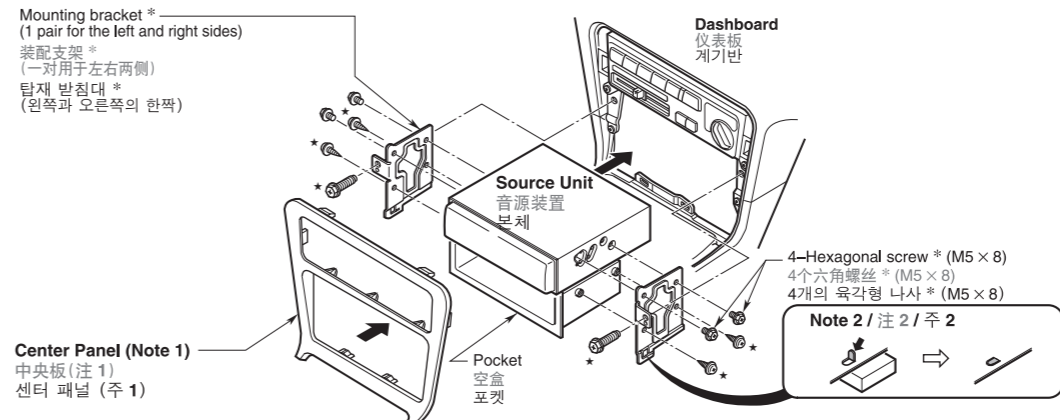

Figure 5 / 图 5 / 그림 5
This unit is designed for fixed installation in the dashboard. If the vehicle is equipped with a factory-installed radio, install the source unit with the parts and screws marked (*). (Figure 5)
2. Secure the mounting brackets to the chassis as shown in Figure 5. When the source unit is installed without the universal mounting bracket, holes exist; modification, such as drilling new holes, of the mounting brackets may be required for other models.